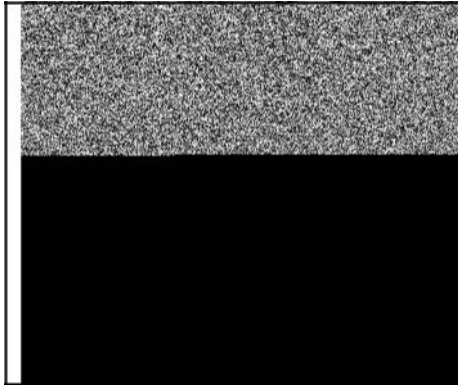

Figure 1
2. Remove rod bolts and connecting rod cap (A, Figure 1).